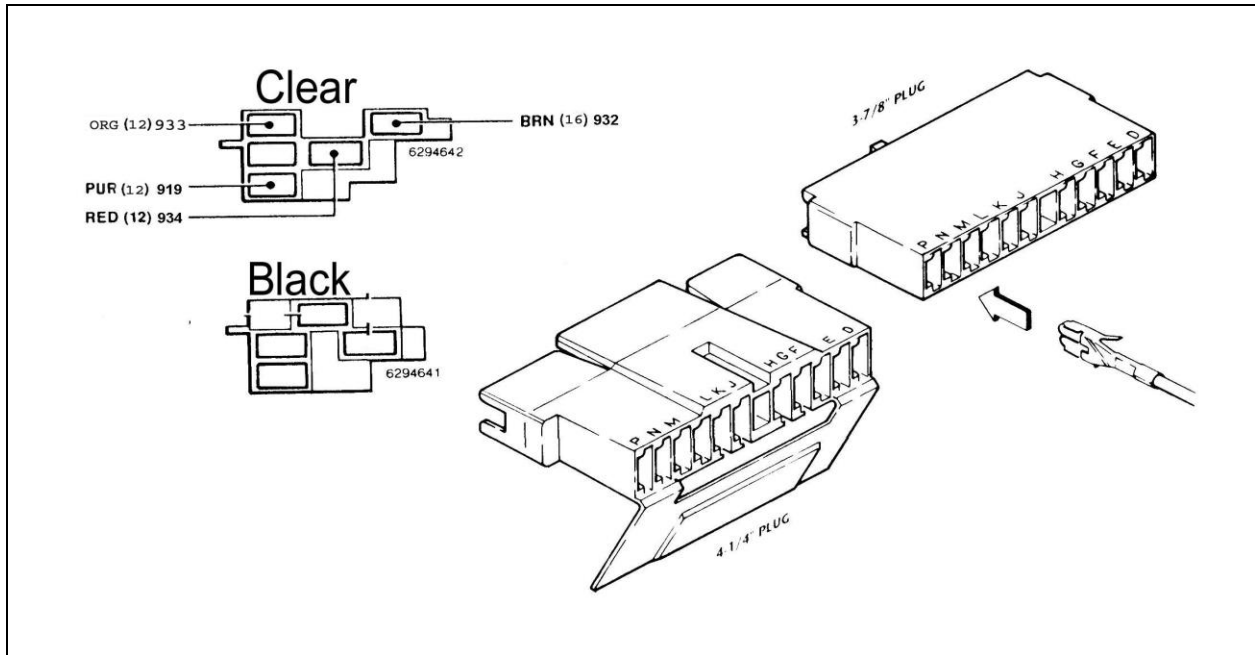

Figure 7.8 Late Model Turn Signal and Ignition Connectors
- 7.7.3** See **Table 7.2** and **Figure 7.8** for late model styles.
- 7.7.5** For later model wiring you will need to cut off the existing terminals and terminate with the proper terminals. Refer to **Table 7.2** and **Figure 7.8** for installation.